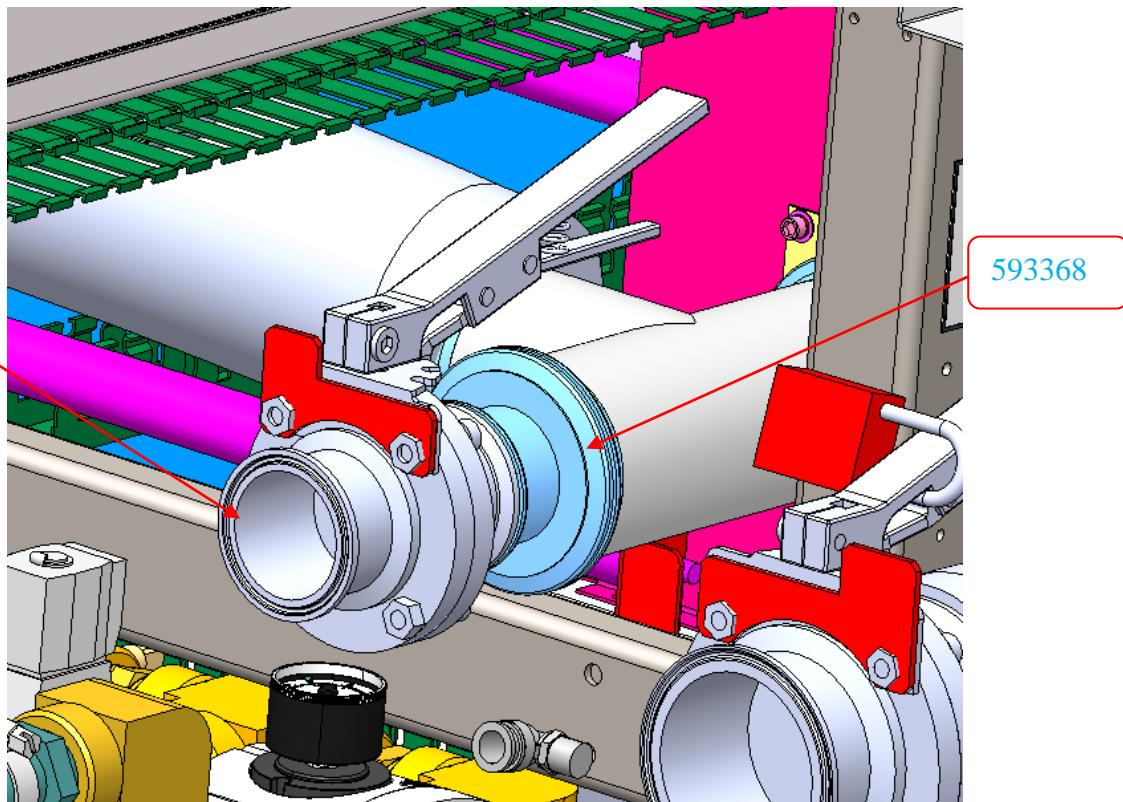

Fig 14
12. Install REDUCER, CLAMP FITTING, 3"-2" (593368) And 2" butterfly Assembly (see Fig 14)